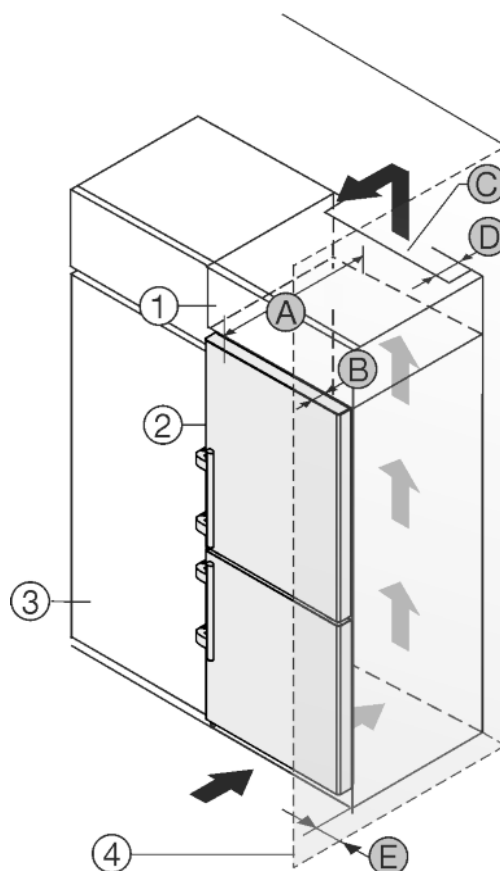

Fig. 25
The appliance can be built into kitchen units. A top cupboard *Fig. 25 (2)* can be added above the appliance in order to bring the appliance *Fig. 25 (1)* up to the height of the fitted kitchen units.
The appliance can be installed right next to the kitchen cabinet *Fig. 25 (3)*. The appliance must stick out by the depth *Fig. 25 (B)* from the front of the cabinet so that the doors can be opened fully. The appliance may protrude further depending on the depth of the kitchen cabinets and whether wall spacers are used.
- There must be a ventilation shaft with the depth *Fig. 25 (D)* at the back of the top cupboard over the entire width of the cupboard.
- The ventilation shaft *Fig. 25 (C)* must be observed under the ceiling.
If the appliance is installed with the hinges next to a wall *Fig. 25 (4)* the distance *Fig. 25 (E)* between the appliance and the wall must be observed. This is how far the handle protrudes when the door is open.